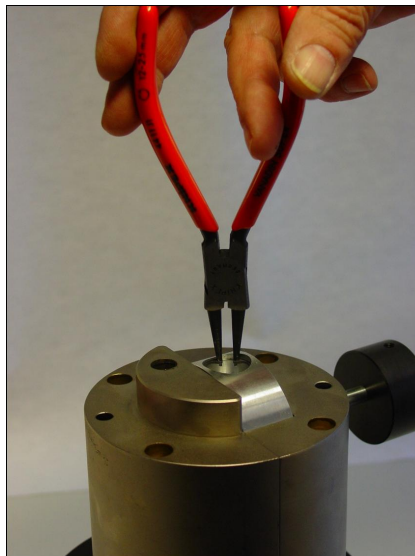

Figure 4.16: Removing the circlip.
6. Remove the circlip using the circlip pliers delivered with the equipment (Figure 4.16)